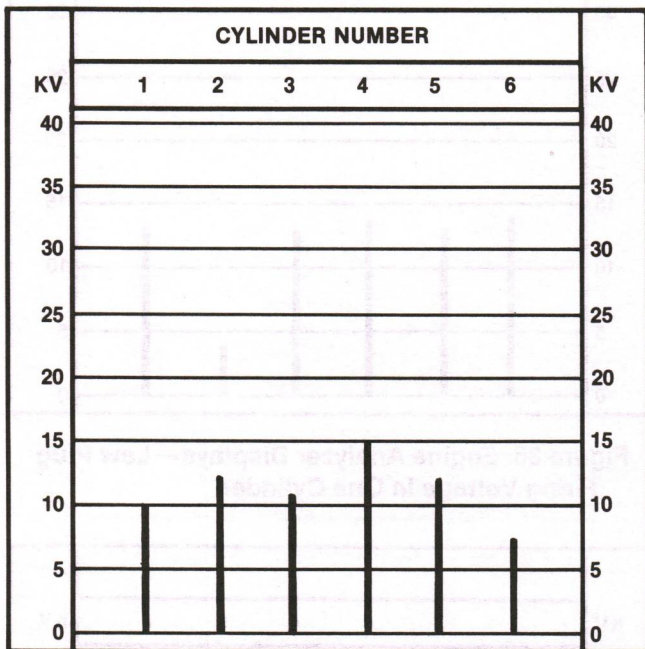

Figure 32. Engine Analyzer Displays—Properly Operating Ignition System
2. While **slowly** increasing engine rpm from idle to 2000, compare the engine analyzer display to the following illustrations (Figs. 32–37). These illustrations are for a four-cylinder engine, but they are typical for all engines.
3. Figure 32 shows the display for a properly operating ignition system: